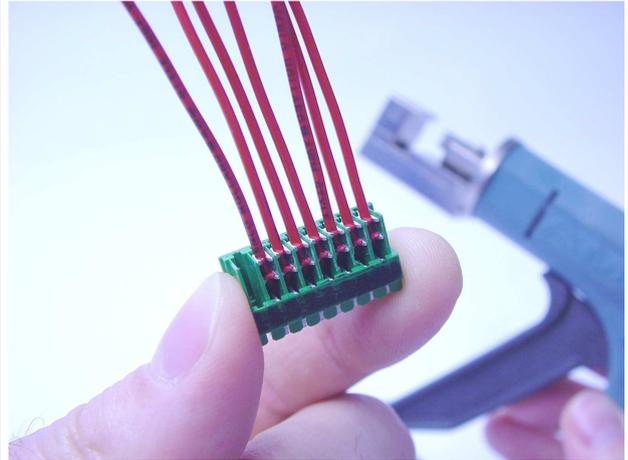

Figure 4
4. Step 2 and 3 are repeated until the wanted contact cavities are processed. In the end the connector with the joined cable can be removed (see figure 4).